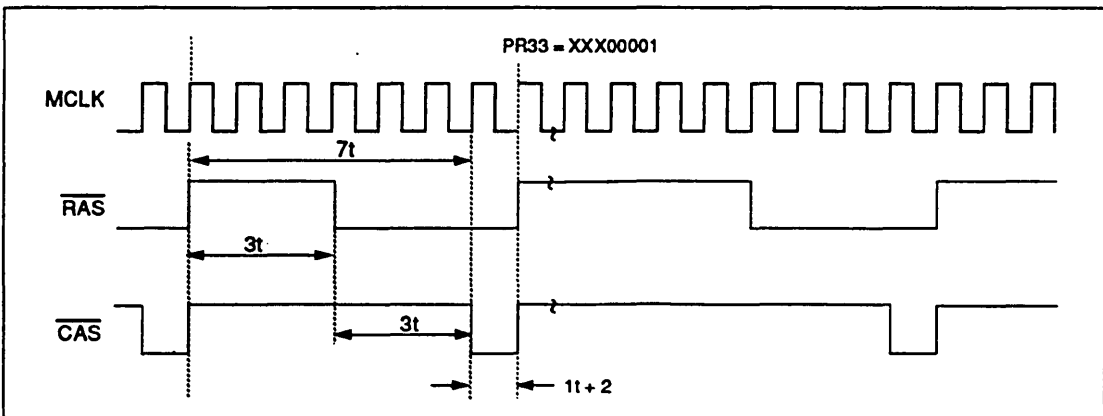

FIGURE 19-9. DRAM TIMING FOR 256K BY 4 OR 16 DRAM
- This timing is adjustable via PR33 (see Figures 19-9 and 19-10).